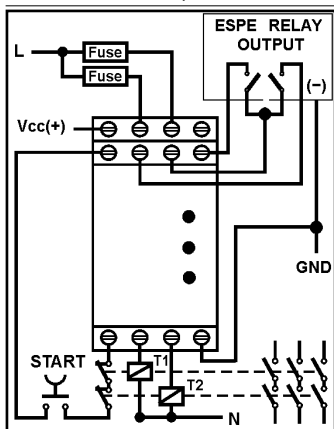

Fig. 8: ESPE: 2 uscite a relè a 2 fili /
- ESPE with two relay two-wires outputs: connect one wire of each output channel to the S22 terminal and the other outputs to the S12 and S21 terminal, leaving S11 not connected (fig. 8, max. Safety cat. 4).